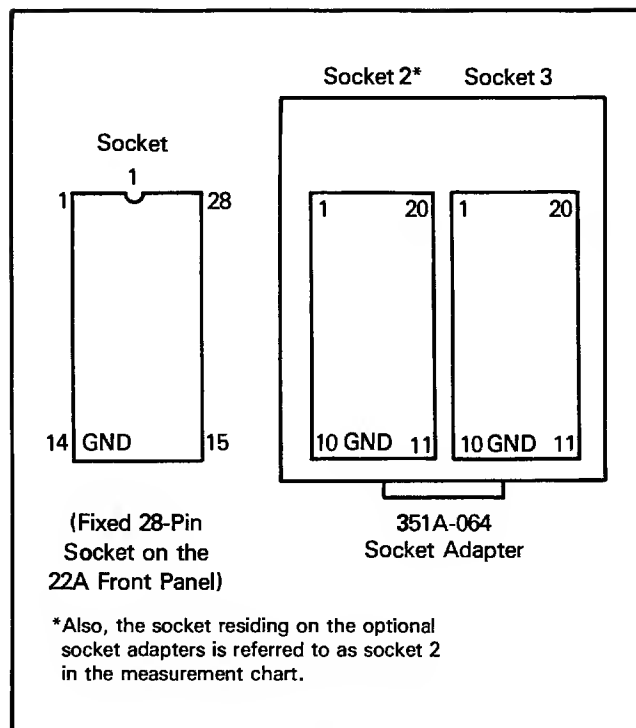
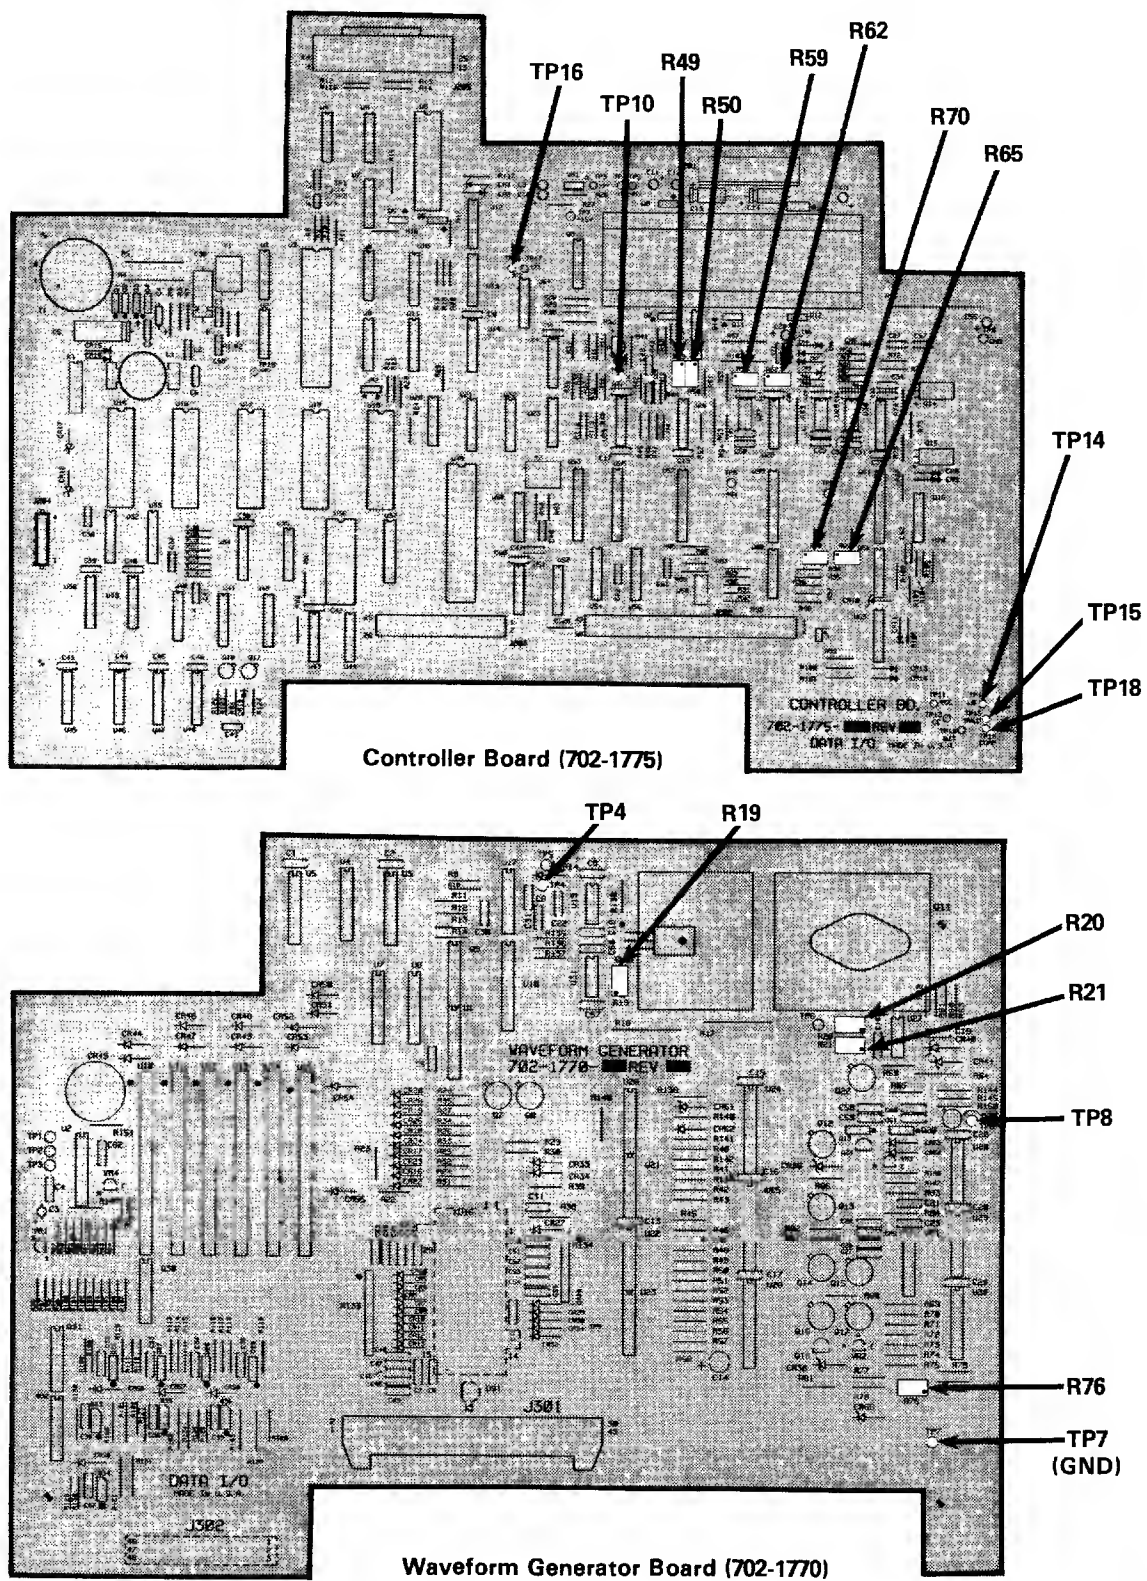

Figure 4-2. Pin Numbers of the Device Sockets
Figure 4-3. Adjustment and Test Point Locations
- Take measurement readings at the device sockets or test points indicated in the measurement chart; figure 4-2 shows the pin numbers for the device sockets; figure 4-3 shows test points.
- The adjustment pots on the waveform generator and controller boards enable you to make adjustments when your measurements do not match the measurement chart; figure 4-3 shows the location of these adjustment points.
7. Trigger your oscilloscope by connecting to TP16 on 702-1775 board. Refer to figure 4-3.
8. Ground the scope to the ground (GND) contact of the socket with its LED illuminated, the ground contacts are shown in figure 4-2.